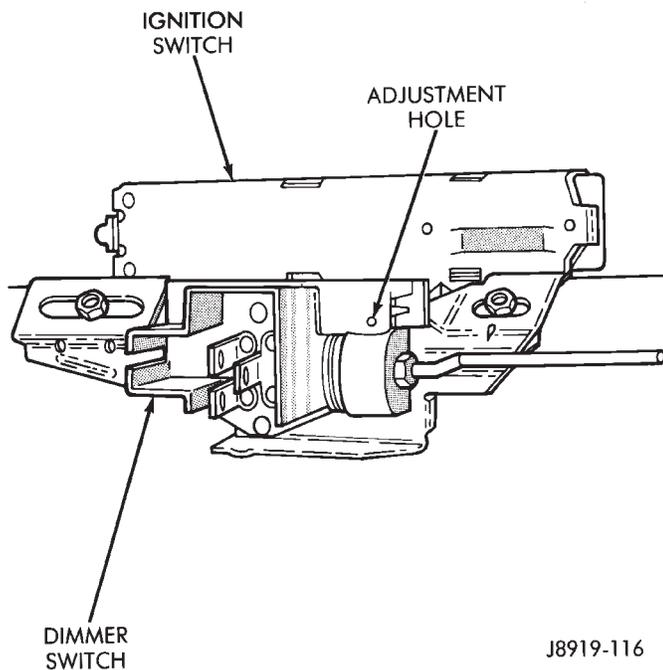

Fig. 1 Ignition Switch/Headlamp Dimmer Switch—Typical
The ignition switch is mounted (under the instrument panel) on the lower section of the steering column. The headlamp dimmer switch is mounted beside the ignition switch (Fig. 1). Both of these switches (ignition and dimmer) share the same mounting screws.
(8) Adjust dimmer switch as follows: Depress the switch slightly and insert a 3/32-inch drill bit into the adjustment hole (Fig. 1). This is done to prevent horizontal switch movement.
(9) Move switch toward steering wheel to remove any lash from switch actuator rod. Tighten dimmer and ignition switch fasteners to 4 N·m (35 in. lbs.) torque.
(10) XJ models: Install the lower instrument panel trim assembly. YJ models: Install the windshield wiper intermittent control module and its bracket (if equipped).
(11) Install the negative battery cable.